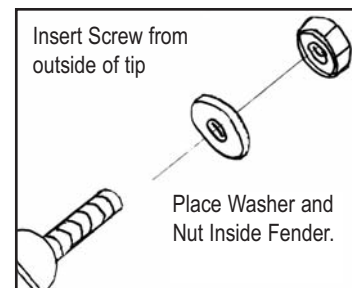

Figure 4
7. Position the Fender Tip, and squeeze fender toward tip. Insert the Screws from the outside. Install the Washers and Nuts to the inside. Tighten securely. **Figure 4**